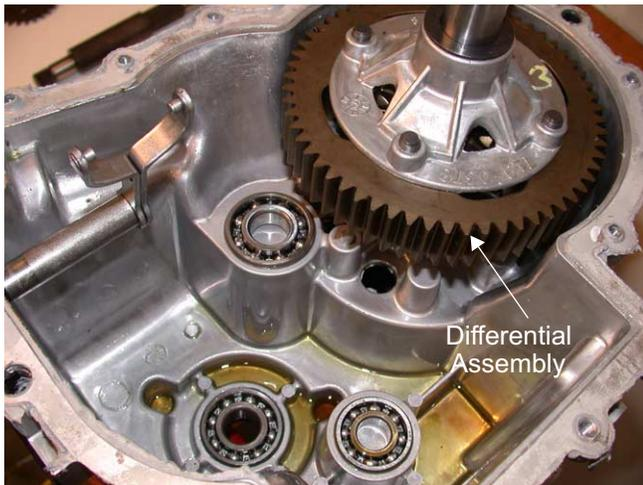

Figure 8.28
8.28. Remove the differential assembly. See Figure 8.28.